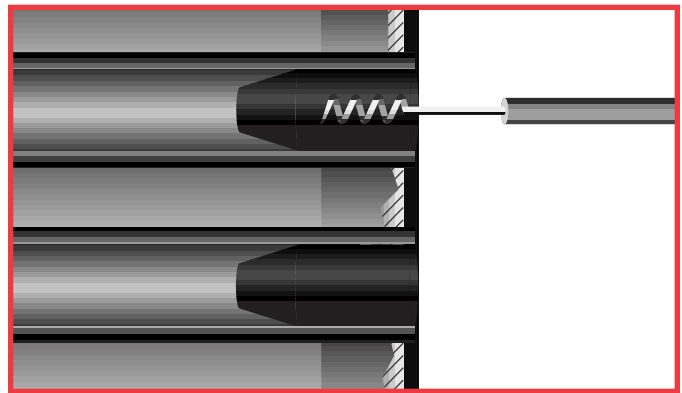

Figure 38. Remove stoppers with a packing puller.
6. Wait at least 18 hours after the coating has been applied before taking out the stoppers. Then take a packing puller or large pliers and pull out all the rubber stoppers. (See figure 38)